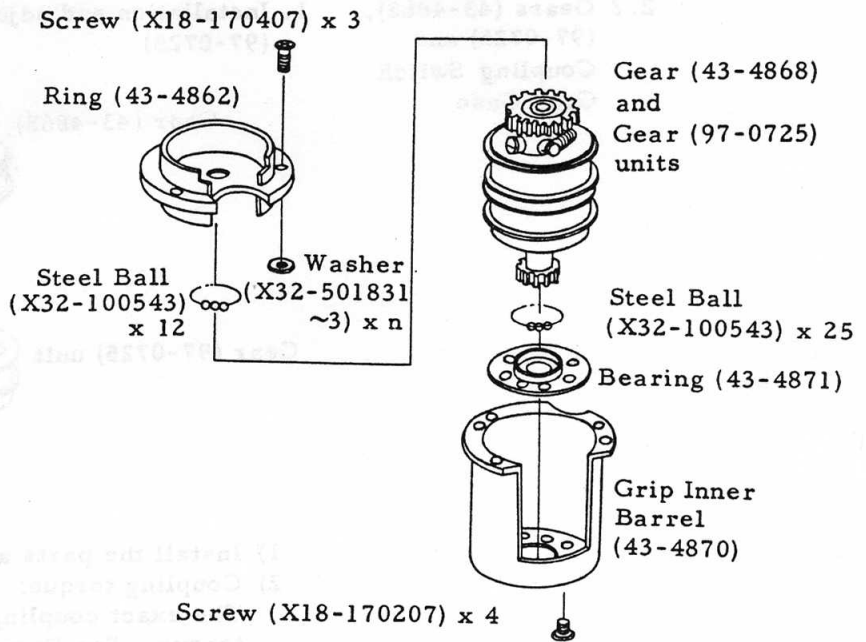

Fig. 4
- 1) Install the parts as shown in Fig. 4.